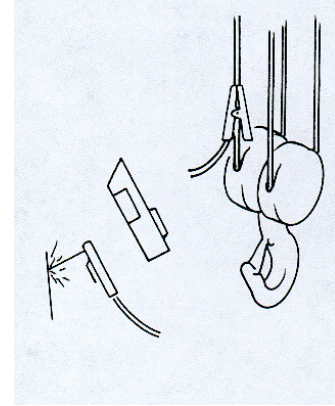

fig.91
- **NEVER** use the rope or chain as a ground wire for a welder (fig.91).